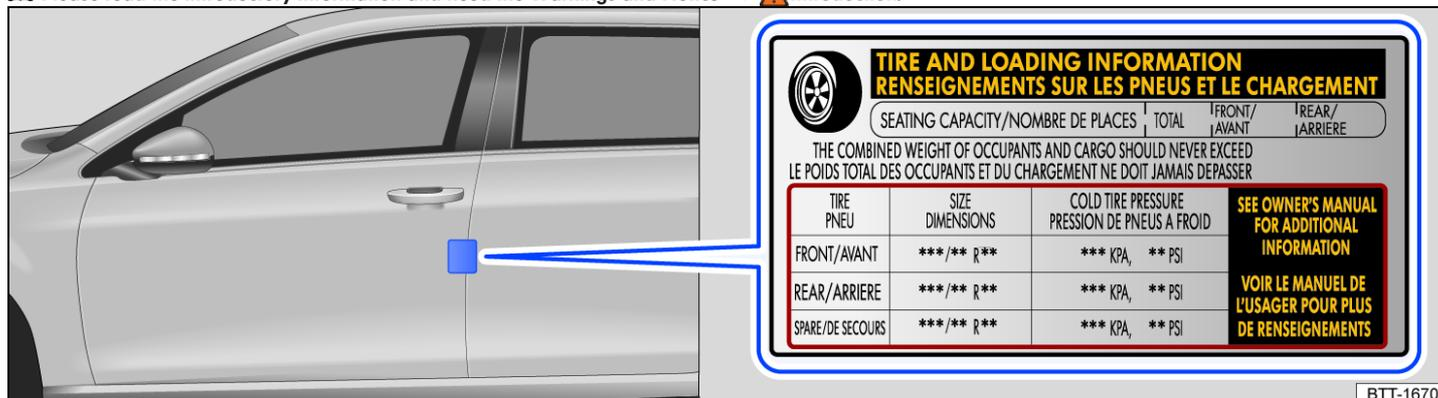

Fig. 209 On the driver door pillar: tire pressure sticker
The correct tire pressure for the tires fitted at the factory can be found on a label on the B-pillar of the driver door *fig. 209*. The factory-installed tires can be winter, summer or all-season tires.
- Always adjust the tire pressures to the vehicle load *fig. 209*.